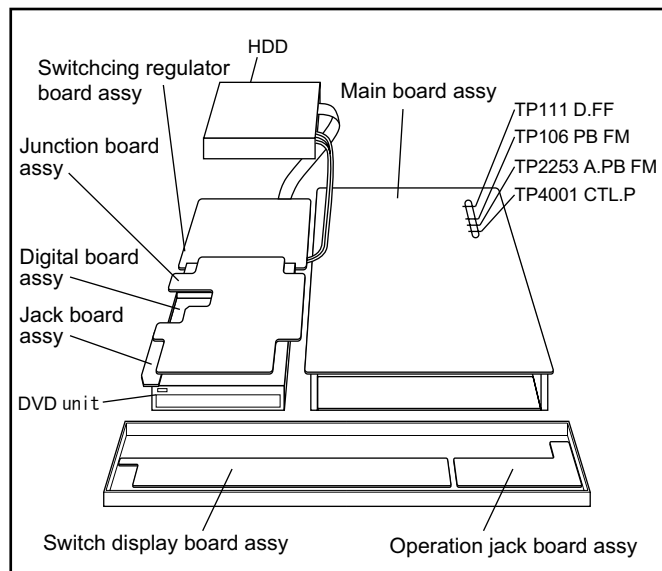

Fig.2-2a
- (1) Refer to the disassembly procedure and perform the disassembly of the major parts before removing the Mechanism assembly.
- (2) Remove the screws that fix the Mechanism, Main board assembly to the bottom chassis. If any other screws are used to fix the boards, remove them also.
- (3) Remove the combined Mechanism, HDD, DVD unit, switching regulator, digital, junction and Main board assemblies.
- (4) If any other major parts are used, remove them also.
- (5) Connect the wires and connectors of the major parts that have been removed in steps (1) to (4). (Refer to Fig. 2-2a.)
- (6) Place the combined Mechanism, Main board and other board assemblies upside down.
- (7) Insert the power cord plug into the power outlet and then proceed with the diagnostics and servicing of the board assembly.